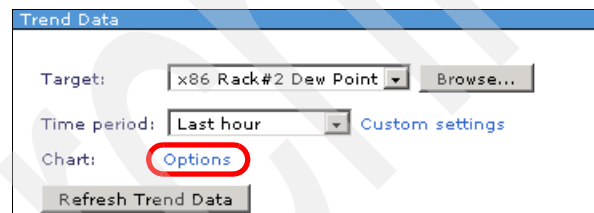

Figure 9-33 Customizing chart options in Trend Data
- By default, the trend data view does not show Dew Point automatically. To add this value, click **Options** in the Trend Data view, as shown in Figure 9-33.